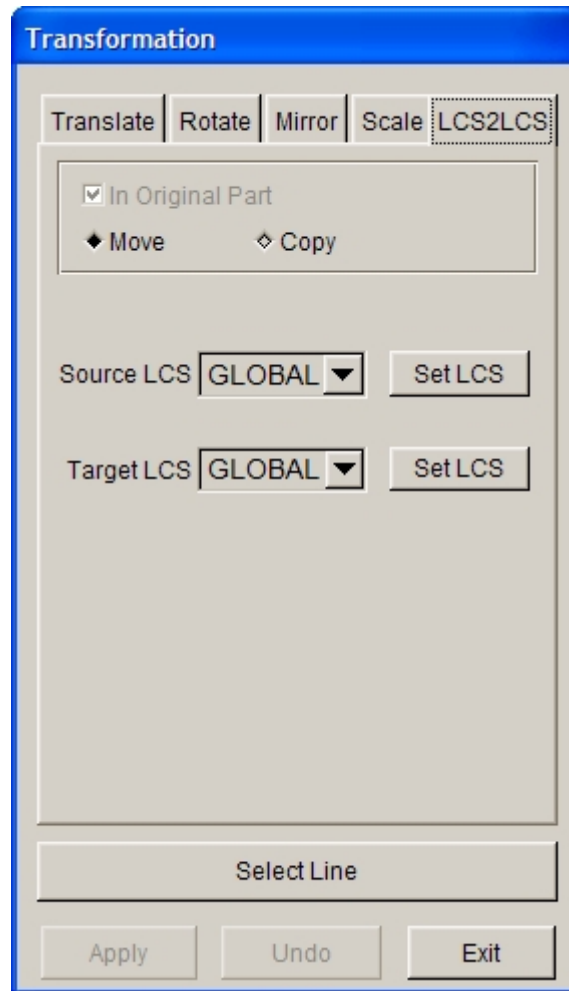

Figure 5.1.37 LCS2LCS Interface
1. Select a transformation type: MOVE or COPY, as shown in Figure 5.1.37. Once COPY is selected, IN ORIGINAL PART option is activated. The user can select or deselect IN ORIGINAL PART. If it is not selected, the transformed line will be in the current part.